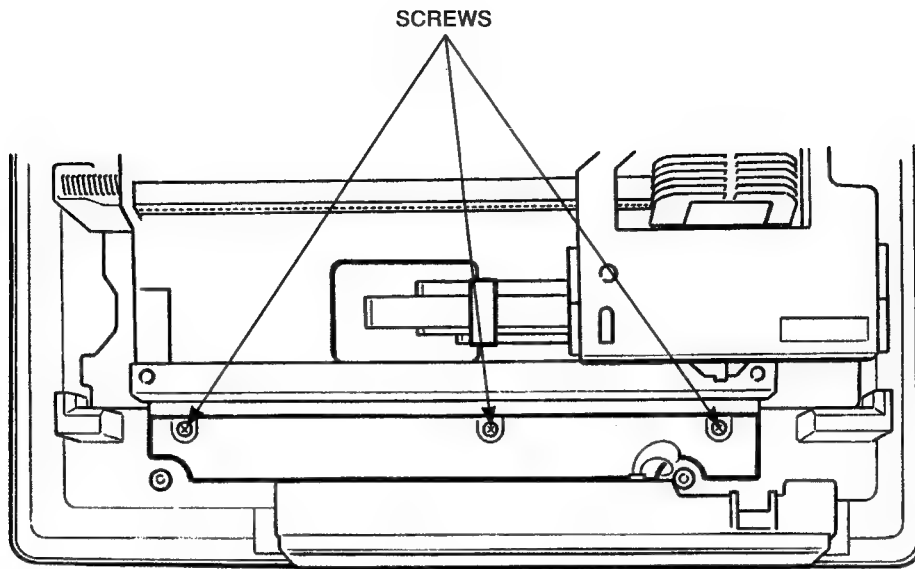

Figure 3-46 Cable Cover
2. Remove the cable cover by removing the three screws securing it to the shield cover (see Figure 3-46).